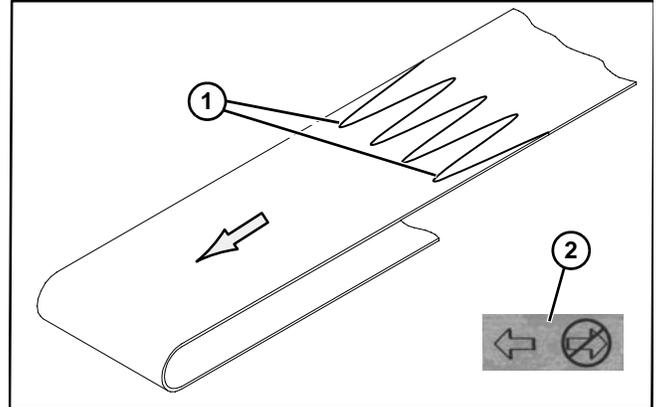

Figure 28
- Orient belt so splice leading fingers (**Figure 28, item 1**) point in the direction of belt travel as identified by the conveyor directional label (**Figure 28, item 2**).